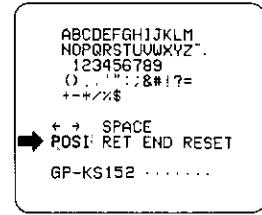

Fig. 28
- Move the character cursor to the "POSI" position and press the Setup Mode Button (SET UP) to display the ID position menu as shown Fig. 28 and the characters of the camera ID starts blinking to identify the positioning menu for you.